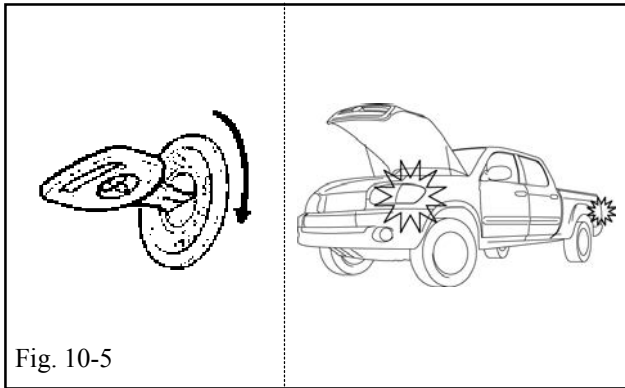

Fig. 10-5
- (h) Start the Engine. (Fig. 10-5)
- (i) After 10 seconds stop the Engine. (Fig. 10-5)
- (1) The hazard lights flash 1 time.